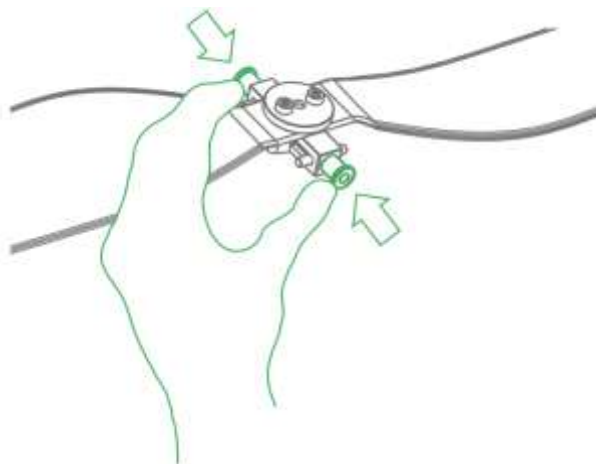

Figure 3-36
Step 1 Press the spring buckle on both sides of the propeller center, as shown in Figure 3-36.